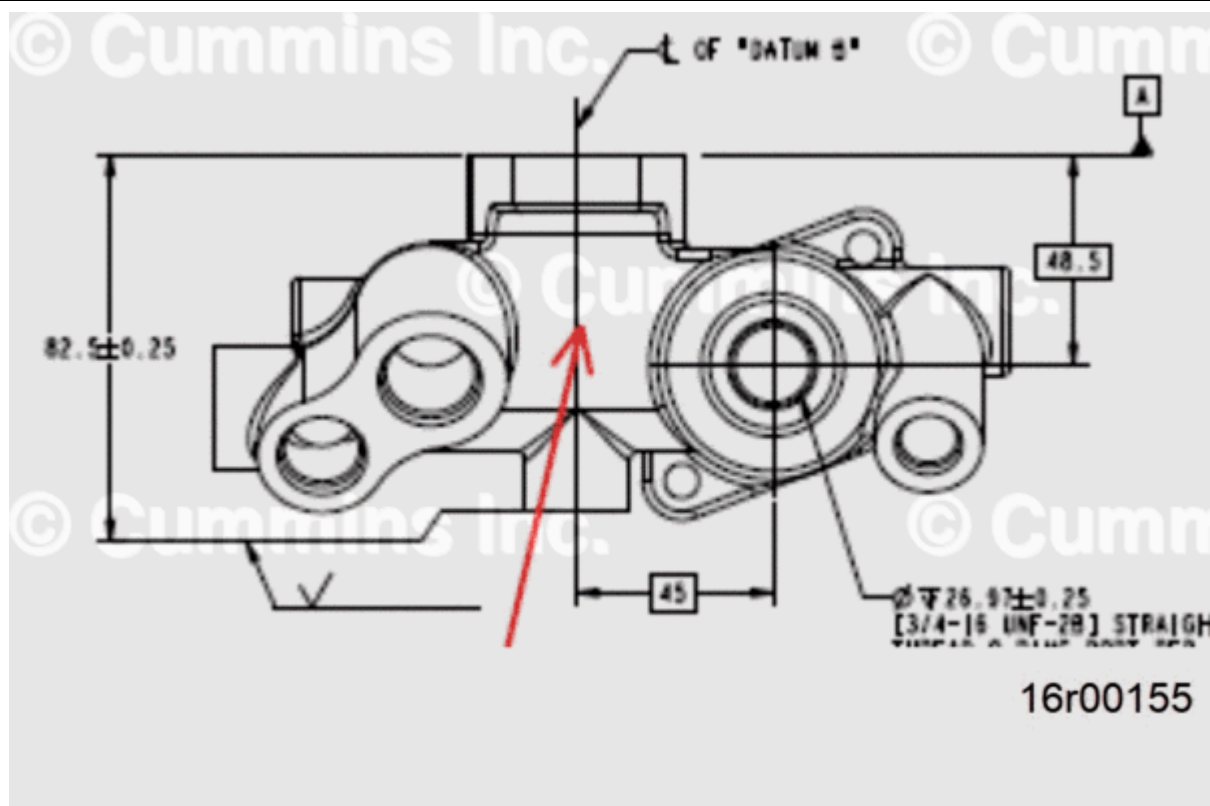

Figure 6, Part Number Stamping Location on New Fan Clutch Oil Manifold.
- Re-route the solenoid harness to the new solenoid position. Figure 6 shows the required new route using two P-clips (part number 68152A) on existing gear cover capscrew locations across both Tier 2 and Tier 4 engines.
The new oil manifold is different in shape to the existing part, allowing the oil control solenoid to sit upside down. The new part number is stamped in the location shown in Figure 6 The existing part number is stamped exactly 180° opposite to this on the bottom face. Both part numbers are stamped on the face opposite to the solenoid when viewed as installed.